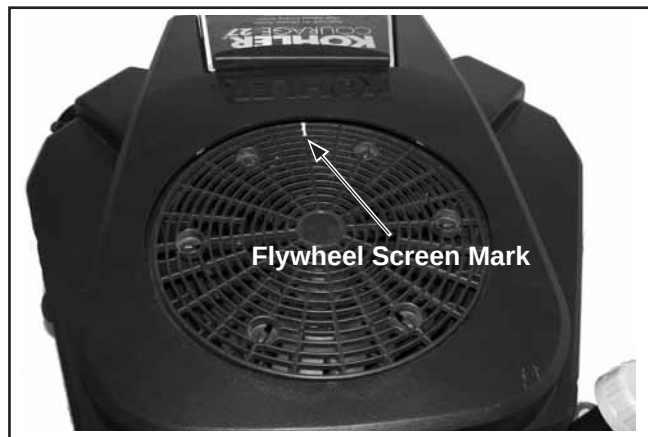

Figure 7-7. Check For Timing Advance.
1. Make a line near the edge of the flywheel screen with a marking pen or narrow tape. See Figure 7-7.